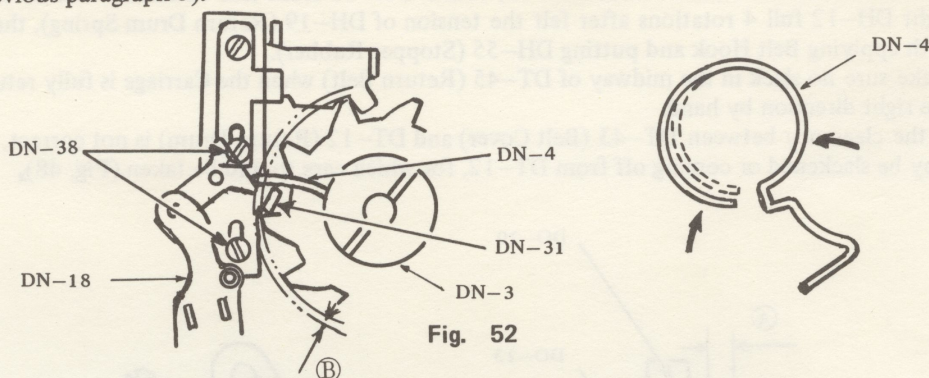

Fig. 52
- (7) If the position of DN-31 (Back Space Pawl Holder) is improper, or DN-4 (Pawl Escape Spring) is too weak, resulting DN-4 can not satisfactorily release DN-18 (Space Ratchet Unit) from DN-3 (Space Ratchet Wheel) during Carriage Return, noise will be generated, in such case, adjust the position of DN-31 with loosening DN-38 (Screw), and further adjust the clearance (B) to 0.5 to 0.7 mm when DN-18 is come off from DN-3 with making the inner diameter of DN-4 smaller. (Fig. 52)